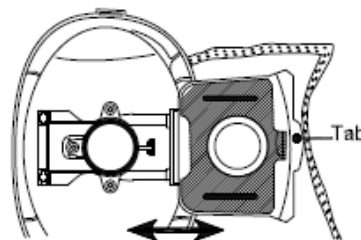

Fig. 2
2. Pull the tab on the HEPA bag holder out slightly and flip upwards. (Fig. 2)